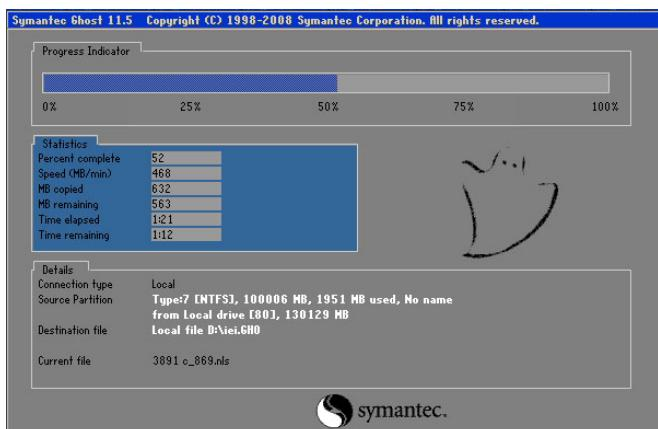

Figure B-19: Image Creation Complete
**Step 10:** The Symantec Ghost starts to create the factory default image (**Figure B-19**).